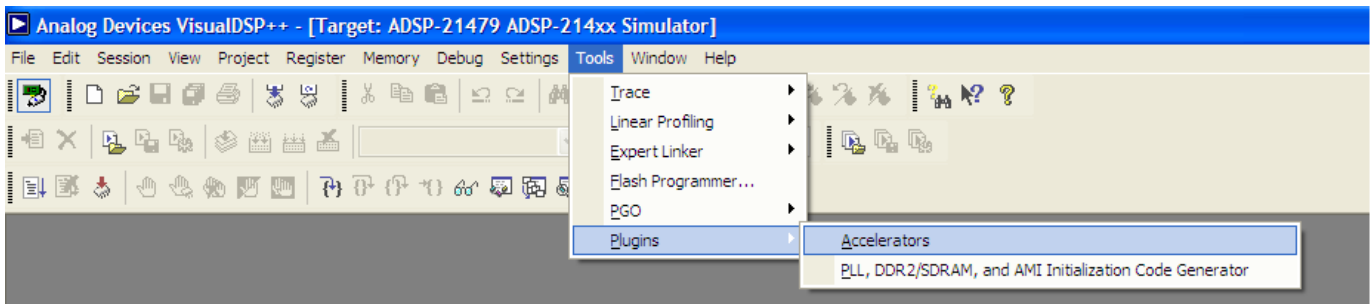

Figure 14. Accessing "Code Generator for Accelerators"
4. After registration is completed, the plug-in can be accessed via: Tools->Plugins->Accelerators as shown in Figure 14.